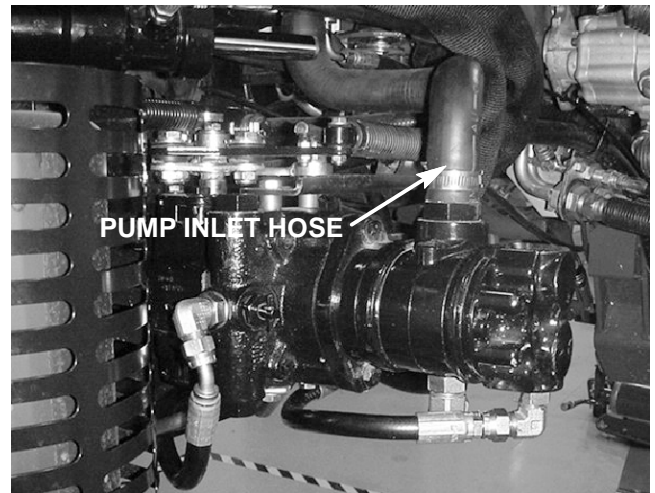
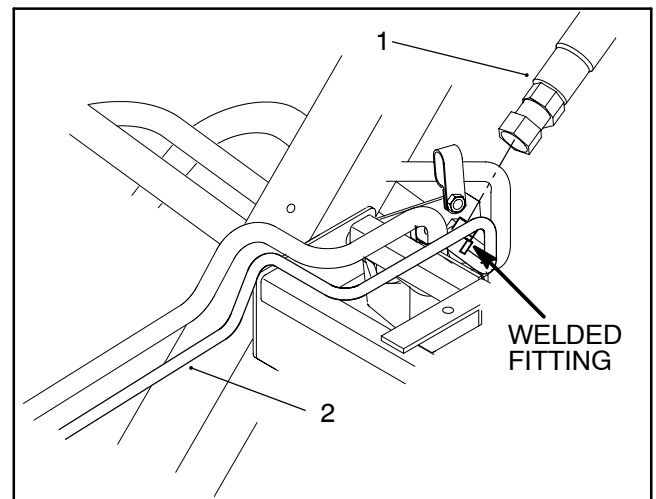
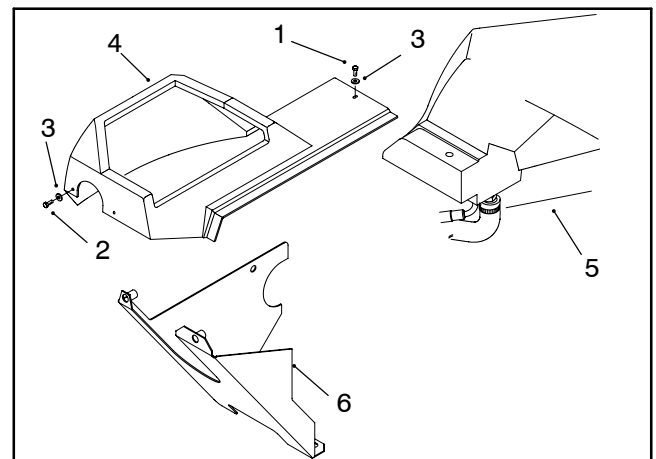

Figure 85
Figure 86
Figure 87
2. Place a suitable container under the hydrostat to collect hydraulic oil. Clamp pump inlet hose to prevent drainage. Remove pump inlet hose from hydrostat and direct to container. Release clamp from hose (Fig. 85).
3. Disconnect hose assembly from the hydraulic fitting welded to the reel motor case drain tube located below the right side of the frame. Allow hose to drain to a suitable container (Fig. 86).
4. Disconnect return hose (21) from hydraulic barb fitting (9). Allow hose to drain to a suitable container.
5. Remove cap screw and flat washer securing the console shroud to the hydraulic tank. Remove both cap screws and flat washers securing the console shroud to the lower panel (Fig. 87).
6. Remove three hex head screws and flat washers securing the mounting plate (29) to the frame. Two screws are located on the top of the plate at the front corners of the fuel tank. The third screw is in front of the castor fork and below the plate.
7. Tilt mounting plate (29) up by lifting at the rear of the machine. Prop up plate securely. Remove four cap screws (16) and flat washers (12) securing the hydraulic tank (6) to the mounting plate.
8. Remove hydraulic tank (6) from the mounting plate (29).
1. Place antiseize lubricant into all four inserts at the bottom of the hydraulic tank (6). Position tank onto the mounting plate (29).
2. Secure hydraulic tank to the mounting plate with four cap screws (16) and flat washers (12). Torque cap screws from **30 to 60 in-lb (3.4 to 6.8 N-m)**.
3. Secure mounting plate (29) to the frame with three hex head screws and flat washers. Two screws go on the top of the plate at the front corners of the fuel tank. The third screw goes in front of the castor fork and below the plate.
4. Secure console shroud to the hydraulic tank with cap screw and flat washer, and to the lower panel with both cap screws and flat washers (Fig. 87).
5. Secure return hose (21) to hydraulic barb fitting (9) with hose clamp (23).
6. Secure pump inlet hose to hydrostat with hose clamp (Fig. 85).
7. Connect hose assembly to the hydraulic fitting welded to the reel motor case drain tube located below the right side of the frame (Fig. 86).